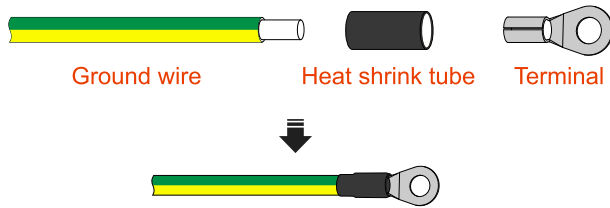

Figure3-26 Grounding wire crimping diagram
Step 1 Strip the insulation layer of the grounding wire by crimping tool, and crimp it into the corresponding terminal, as shown in Figure3-26.